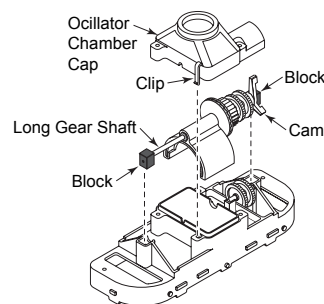
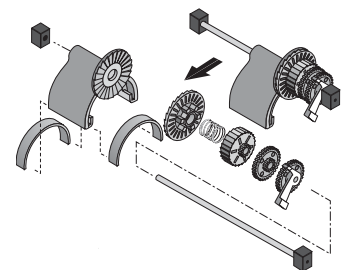

Figure 23a
Figure 23b
3. Turn lower body assembly right side up. Unsnap the 2 clips on the oscillator chamber cap (Figure 23a); lift it off.
4. Pull the long gear shaft straight up (Figure 23a) by the blocks on the ends of the shaft. Hold the seals in the oscillator and the blocks on the shaft. The cam may interfere with the shaft mounting post; if so, turn it slightly on the shaft until it clears the post. The shaft assembly can now be disassembled (Figure 23b).
5. Slide the long gear shaft out of the oscillator (with gears, complete); make sure that you don't lose the seals out of the oscillator which may fall out at this point (Figure 23b).